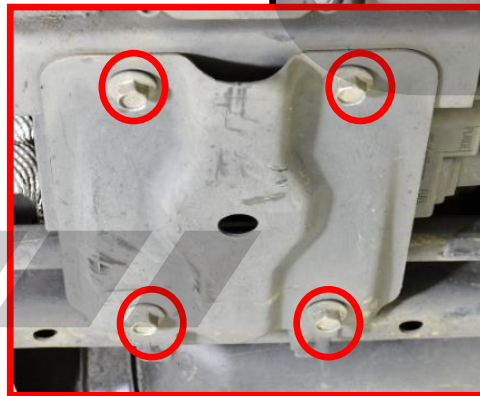

Figure 2b
- b) Remove the upper sway bar end link nuts using the 14mm box wrench and 5mm Allen wrench. Figure 2b shows the passenger's side end link.